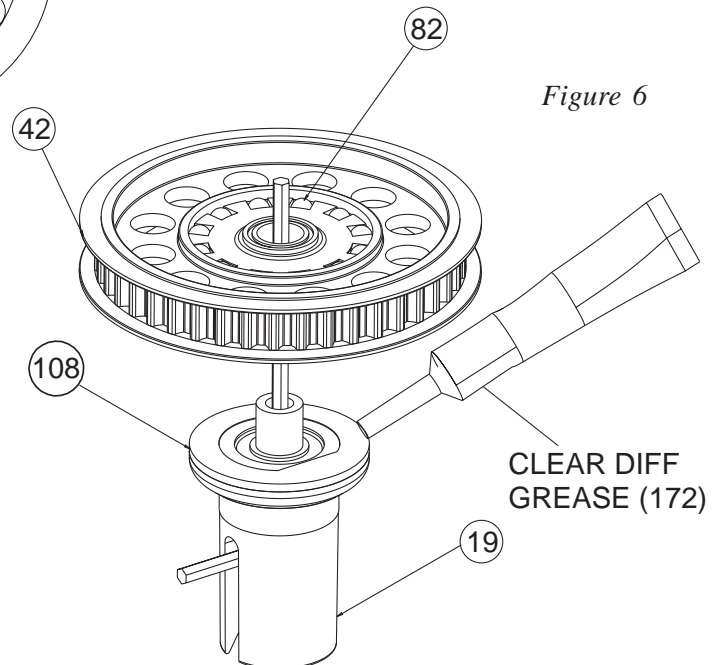

Figure 6
1. Apply a heavy coat of clear diff grease (172) to the exposed side of the diff ring (108) that is already attached to the outdrive (19).
2. Carefully place the diff pulley (42) over the post on the outdrive so that the diff balls (82) and diff pulley rest against the greased drive ring. Leave the assembly with the 1/16" Allen wrench (125) standing as shown in Figure 6.